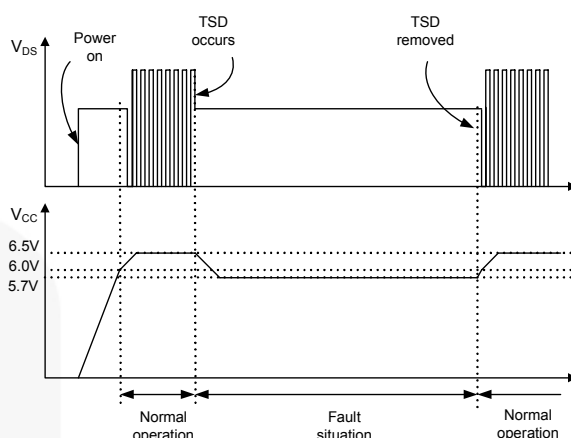

Figure 19. Over-Temperature Protection (OTP)
**3.2 Thermal Shutdown (TSD):** The senseFET and the control IC in one package makes it easy for the control IC to detect an abnormal over temperature of the senseFET. When the temperature exceeds ~140°C, the thermal shutdown triggers. When TSD triggers, delay current is disabled, switching operation stops, and  $V_{CC}$  through the internal high-voltage current source is set to 5.7V from 6.5V, as shown in Figure 19. Since the TSD signal prohibits the senseFET from switching, there is no switching until the junction temperature decreases sufficiently. If the junction temperature is lower than 60°C typically, TSD signal is removed and  $V_{CC}$  is set to 6.5V again. While  $V_{CC}$  increases from 5.7V to 6.5V, the soft-start function makes the senseFET turn on and off with no voltage and/or current stress.